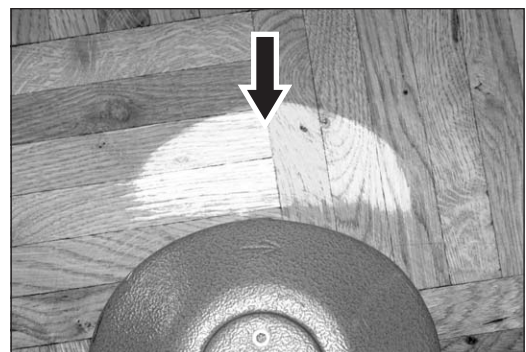

Fig. 64 **Proper** adjustment of the guide rollers:
- 6 If the machine sands **centrically** (fig. 64), the guide rollers are properly adjusted.